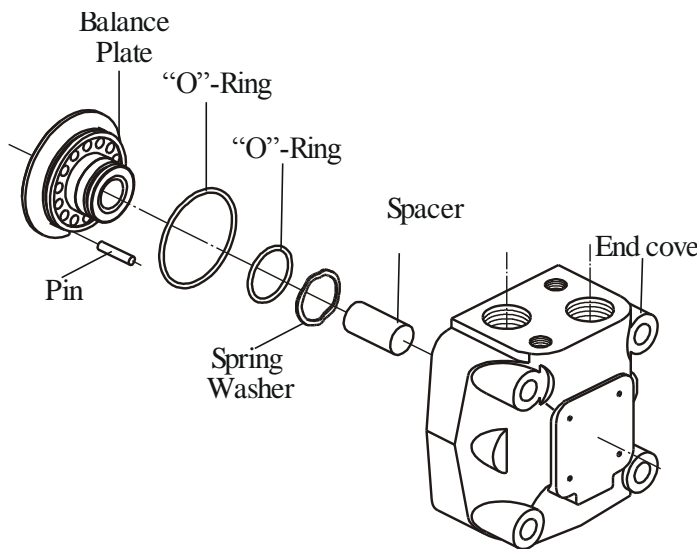

Fig.5
14. Turn the end cover with the hole conversely on a clean soft surface. Knock several times using a plastic hammer on the rear side. Set in order the fallen parts apart (see Fig.5).
16. Mount the lubricated “O”-Rings (2 pcs.) in the relevant grooves of the balance plate (see Fig.5).